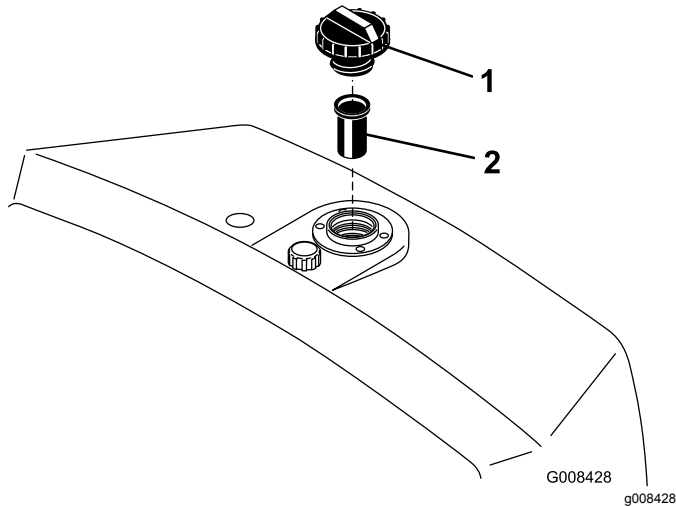

Figure 48
2. Remove the cap from the reservoir and check the fluid level. The fluid should be up to the bottom of the screen in the filler neck (Figure 48).